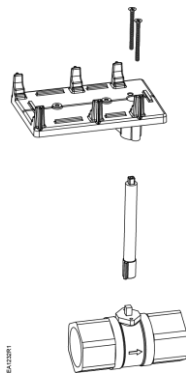

Figure 3.
1. Insert the ball valve bracket shaft through the bottom of the bracket. See Figure 3.
4. While holding the shaft in the appropriate orientation, assemble the bracket to the valve using the two M4 x 0.7 x 50 mm, or M4 x 0.7 x 53 mm screws, depending on your configuration. See Figure 3.